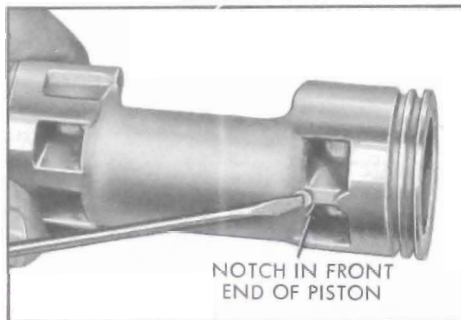

Figure 11-70—Piston Assembly
8. Remove piston rings, balls and shoe discs. Discard the shoe discs. Examine piston balls, if satisfactory for reuse, place in parts tray with proper end of piston. The front end of piston has identifying notch in casting web. See Figure 11-70.